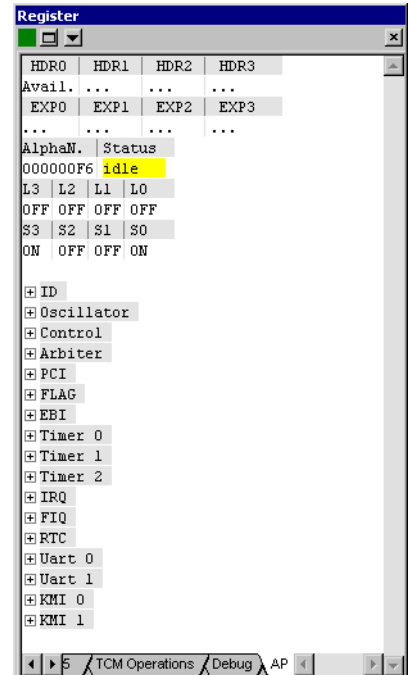

Figure 3-26 AP tab in the Register pane
- Click on the **AP** tab. RealView Debugger shows the abstraction of the hardware information specific to the Integrator/AP board, shown in Figure 3-26 on page 3-45.